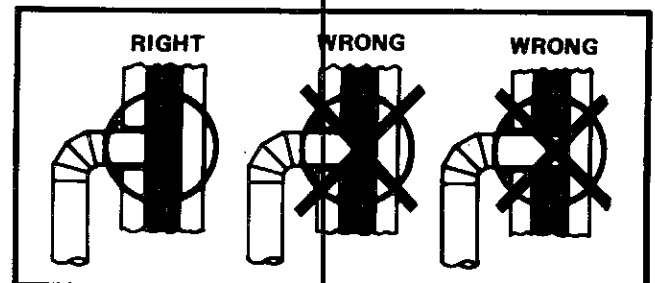

FIG. 12
4. The pipe cannot extend into the chimney flue because it will restrict the draft. (Fig. 12).
must extend a minimum of 16" in front of the Fireplace Insert. Clearance to any combustible wall must be a minimum of 22" as shown in Fig. 12.